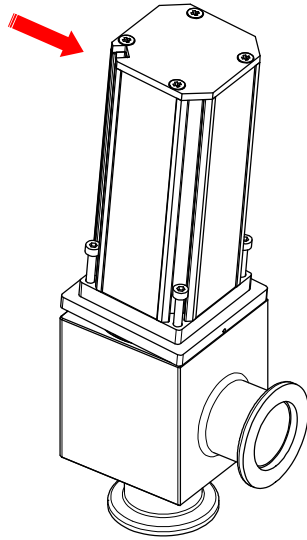

Figure 6-6
2. Remove the four bonnet screws (60).
3. Gently tilt the valve insert, like shown in figure «Figure 6-6» (tilt movement from compressed air connection side only). Tilting the valve insert in other directions might scratch the sealing surfaces.